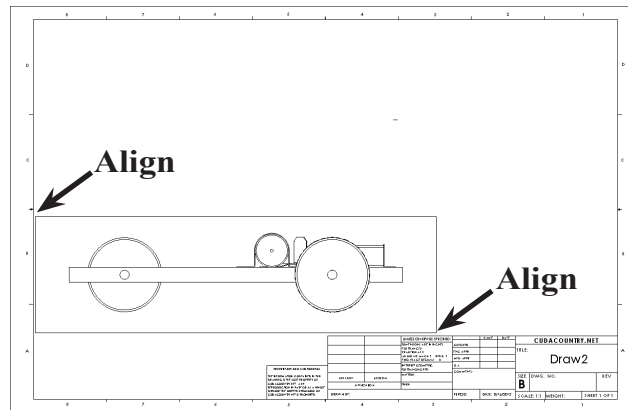

Fig. 2
Step 6. Move the cursor into the graphic area and click to place the right side view as shown in Fig. 2. Align the left edge of the preview with the left border line and align the bottom edge with the top of the title block.